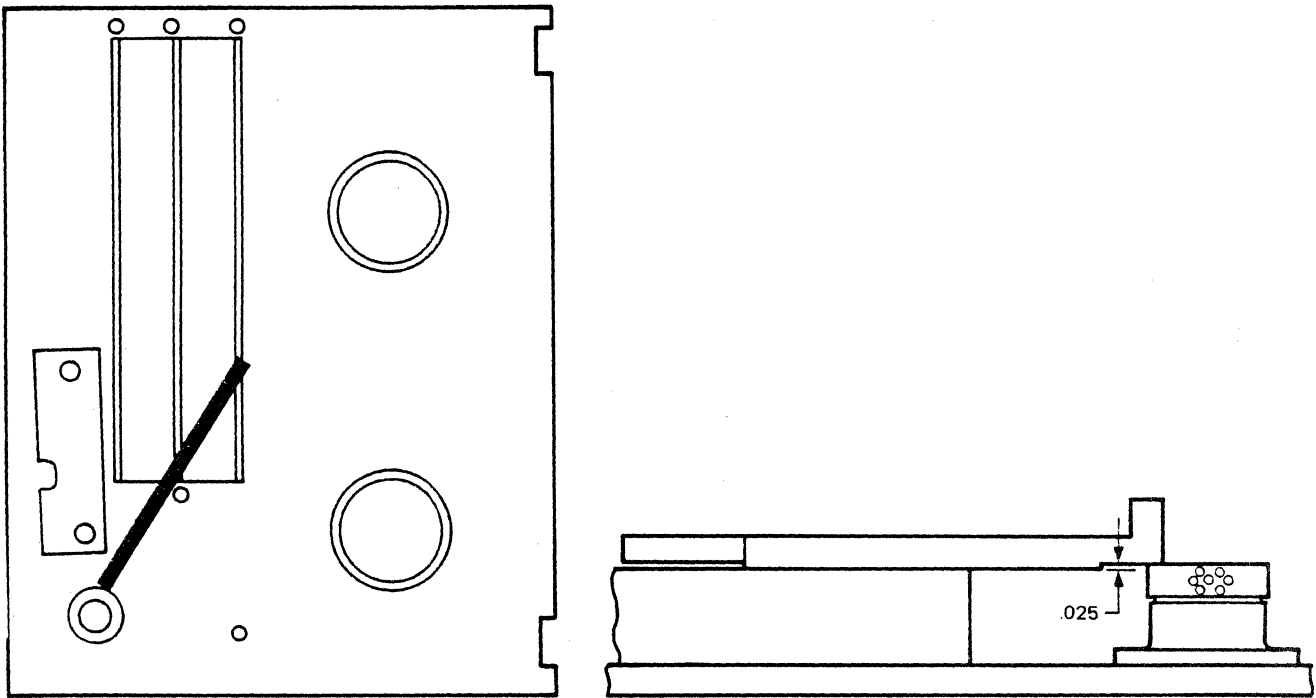

Figure 5-13. Capstan Height Alignment Tool Positioning
- d. Position the alignment tool on the chamber and capstan as shown in figure 5-13. The capstan should be flush against the .025-inch step of the alignment tool. Measure to the metal edge of capstan itself and not to the plastic speed disk.